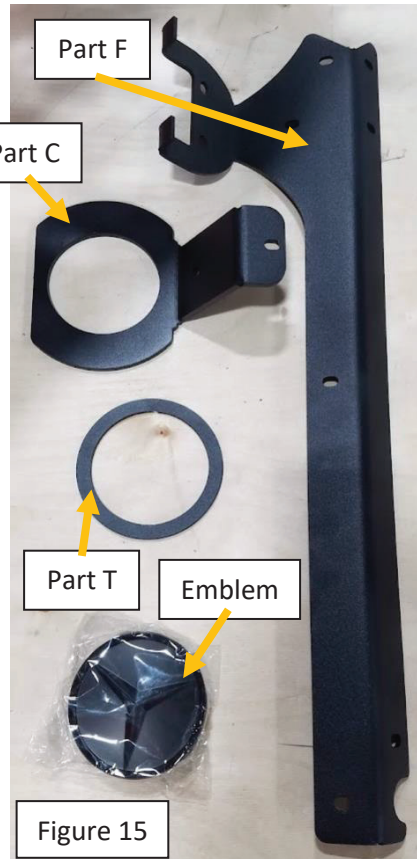

Figure 15
- a. Retrieve parts C, F, T and a Stealth center cap emblem as shown in figure 15